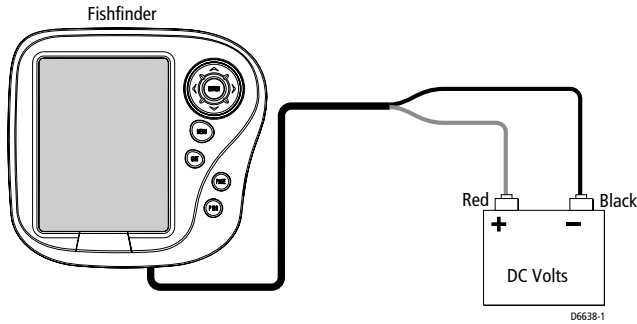

Figure 3-1: Demo/Simulator Mode Setup
*Figure 3-1* demonstrates how to setup the DS400/500X for Simulator mode. Attach the red wire from the power lead to positive (+) and the black wire to negative (-).